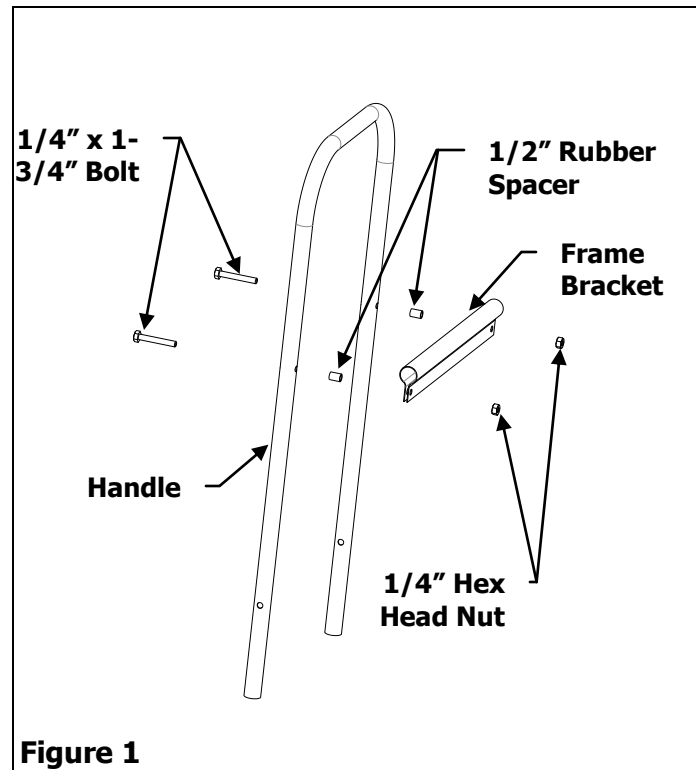

Figure 1
1. Mount Frame Bracket to Handle by inserting a 1/4" x 1-3/4" Bolt through the Handle, place a 1/2" Rubber Spacer onto the Bolt, followed by a Frame Bracket and secure with a 1/4" Hex Head Nut. Repeat process on the other side. **Do not tighten until Upper Frames are installed and adjusted to container size.** See Figure 1.